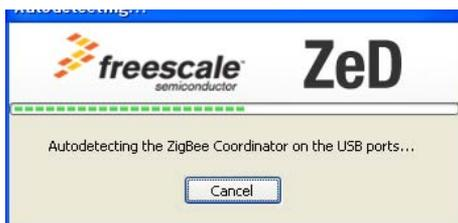

Figure 6. Automatic Detection of the ZigBee Coordinator Port
- After pressing the Next>> button, ZeD tries to automatically detect the COM port that corresponds to the ESP board serving as the ZigBee Coordinator. Figure 6 shows the ZeD window as it tries to autodetect the ESP board.